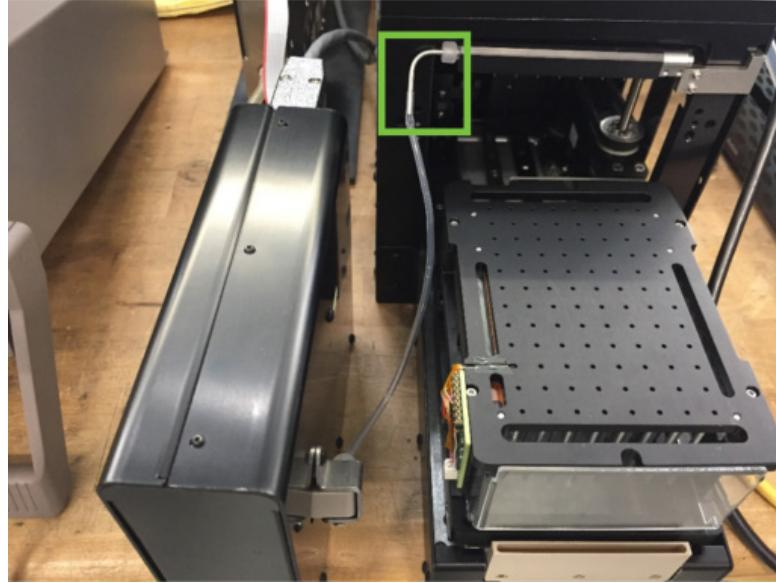

Figure 4–20: Connecting the pump to the Logistics Module
The ideal pump placement is in front of the Logistics Module and to the left, as shown in Figure 4–23. For all NIMBUS integrations, the pump module is placed behind the Logistics Module and to the left; use the longer tubing supplied for these integrations.
2. **If using valve extensions for extra reagents, connect them end-to-end and place them in their stand, shown in Figure 4–24.** The first valve extension outlined in Figure 4–24, called the “single valve extension,” has the port that connects to the pump. Connect any additional valve extensions (called “multiple valve extensions”) after the single valve extension.